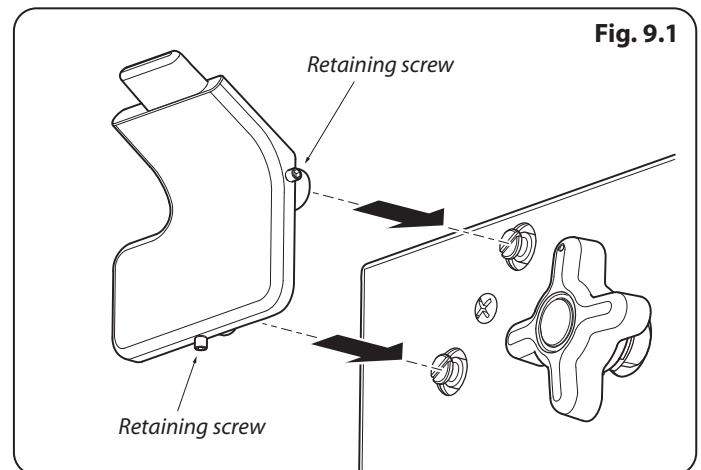

Fig. 9.1
1. Using the 2 mm Allen key supplied, loosen the two retaining screws in the base and side of the handrail support. Fit the handrail support onto the locating bosses on the fascia (**Fig. 9.1**).